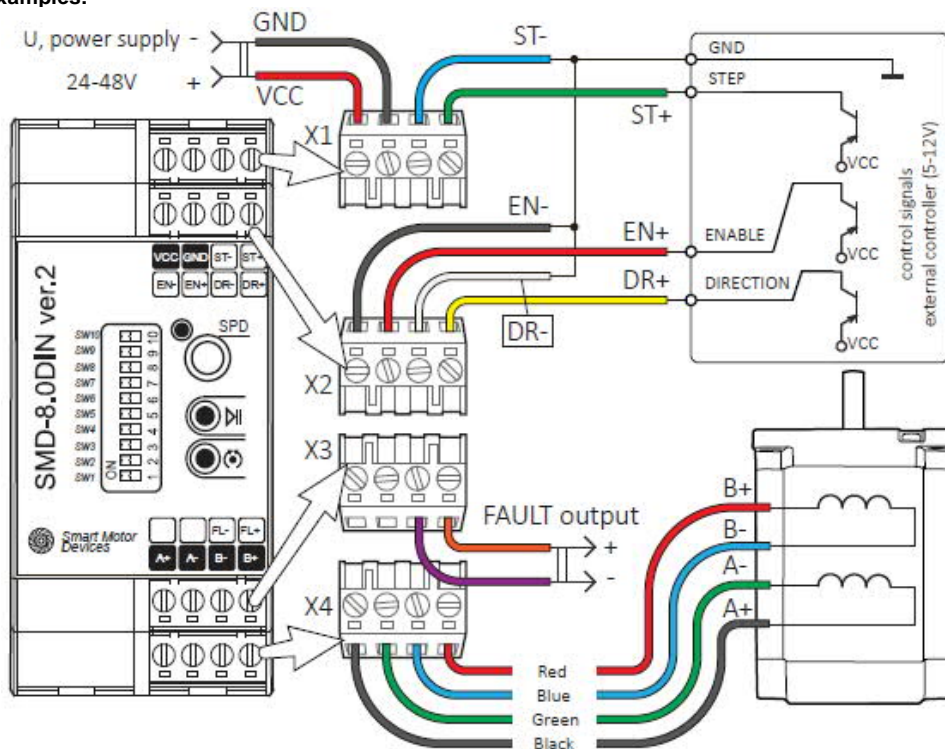

Fig.2.Example 1. Control signals type - common cathode.
Please, provide a reliable contact in connection terminals. During wiring, please, observe the polarity and wire management. Overvoltage may damage the unit. Connection examples are shown on figures 2 - 5. Possible connection schemes for motors are given below in the table 2.
2. Connect external control lines to inputs STEP, DIR, ENABLE and output FAULT according figures 2 - 5.